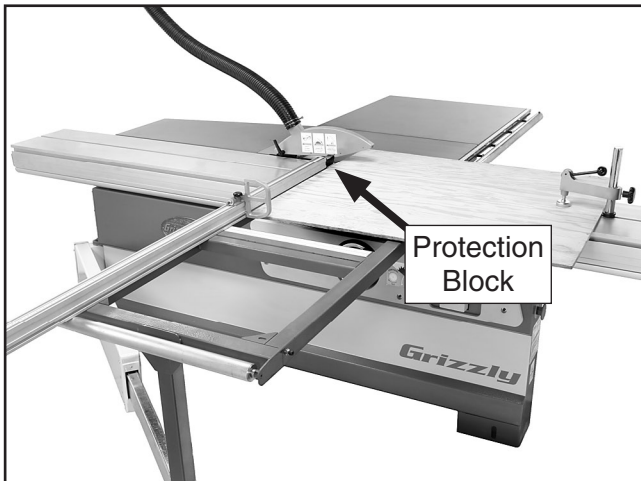

Figure 50. Typical rip cutting operation with a sliding table.
The Model G0460/G0461 easily rips 4' x 8' panels (**Figure 50**). The sliding table removes the burden of sliding a large and heavy panel over a stationary table surface.
5. Load the workpiece onto the table saw. The setup should look similar to **Figure 50**.